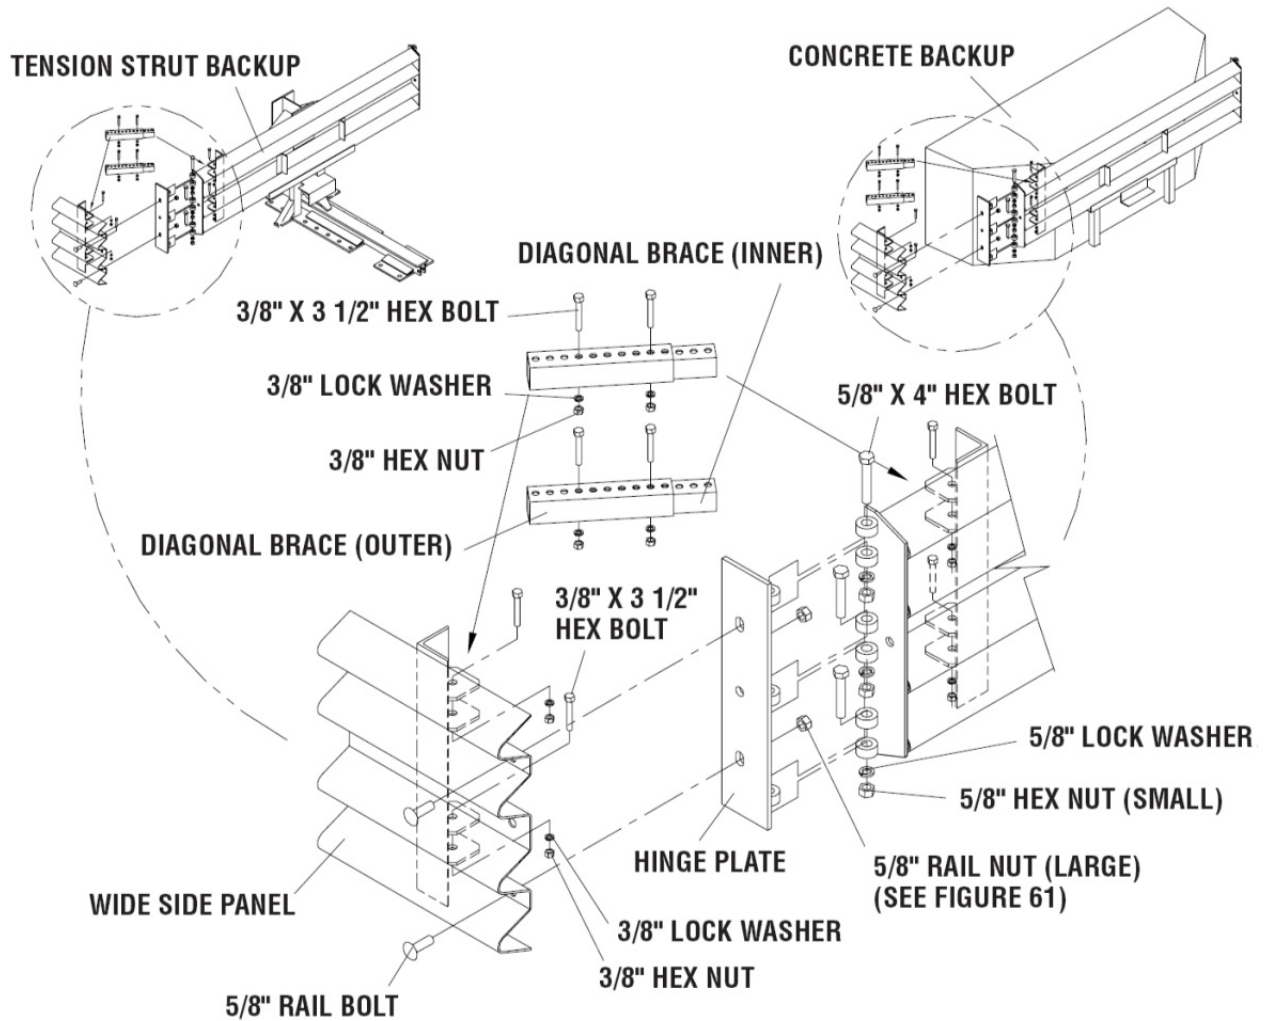

Figure 53
- Secure each diagonal brace with a 3/8" hex bolt; 3/8" lock washer, and 3/8" hex nut (two places per brace) as shown in Figure 53.